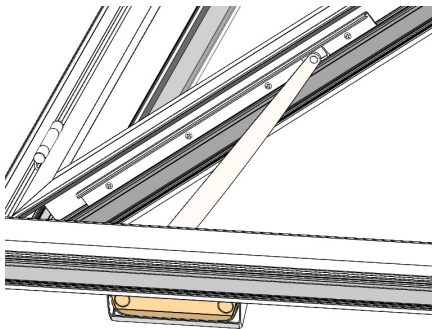

Figure E1:
2. On the underside of the vent, remove the Phillips screws that are connecting the operator to the vent. For casements, slide the track off of the operator (Figure E1,E2).